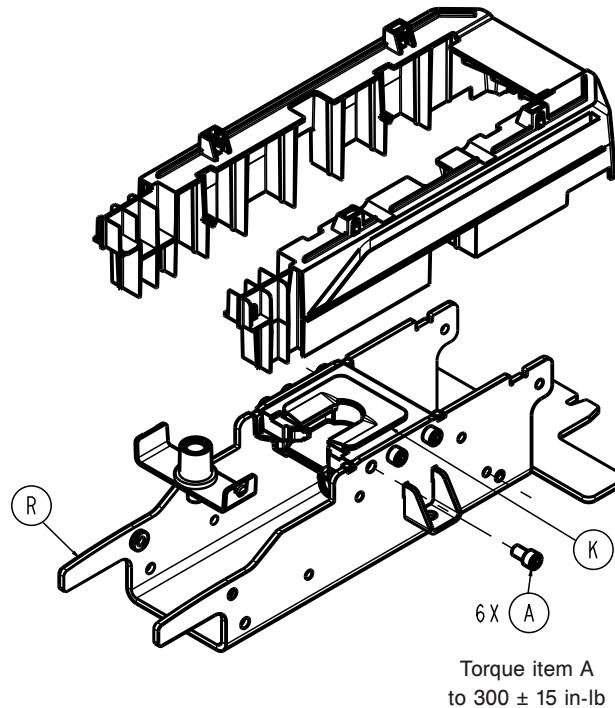

Figure 3 – Replacing the foot end interface assembly
- Using a ¼" hex wrench, remove and save the six screws (A) that secure the foot end interface assembly (K) to the foot end weldment (R) (Figure 3).
**Note** - Torque item (A) to 300 in-lb.